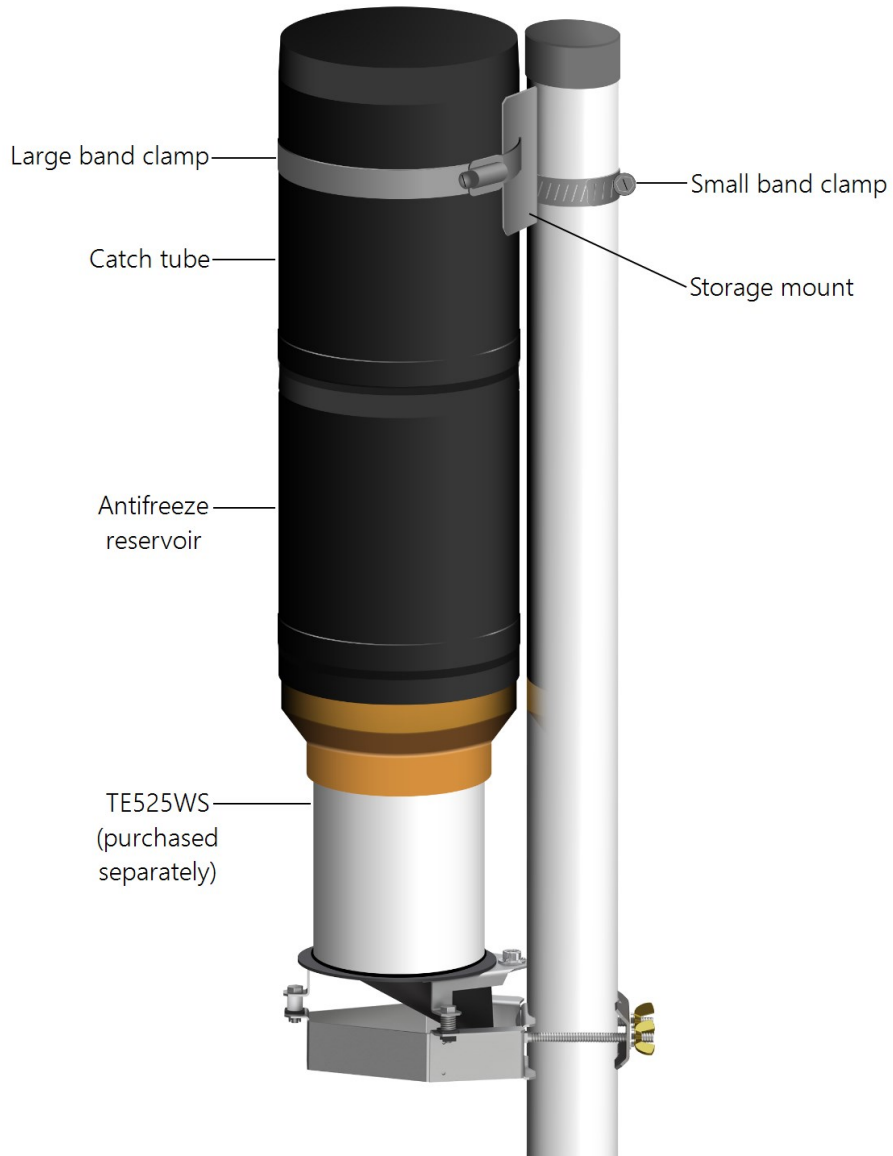
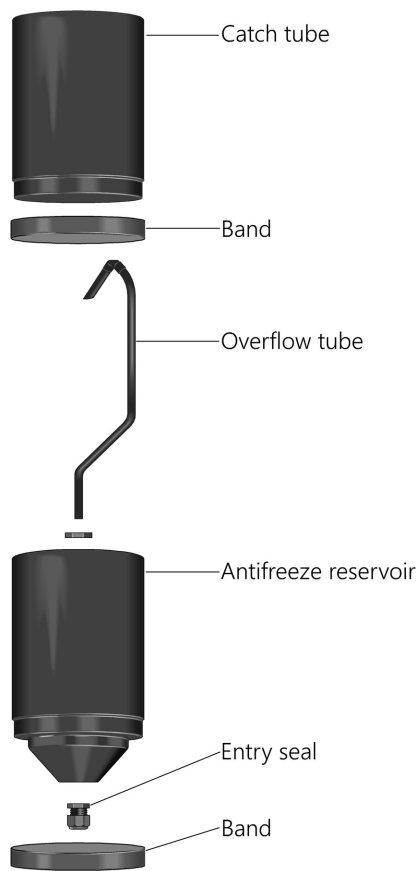

FIGURE 6-8. CS705 mounted to pole using the CM270 Mounting Kit
FIGURE 6-9. CS705 exploded view
1. Take one of the black bands supplied with the CS705 and stretch over the TE525WS funnel (see FIGURE 6-8 (p. 11) and FIGURE 6-9 (p. 12)).
8. Fasten the catch tube of the CS705 to the mounting pole using the band clamps and storage mount (see FIGURE 6-8 (p. 11)).